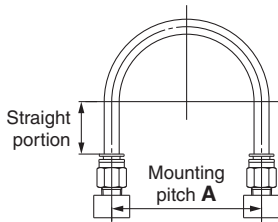

Fig. 1 Recommended piping configuration
1. When connecting tubes using one-touch fittings, provide some spare tube length shown in Fig. 1, recommended piping configuration.